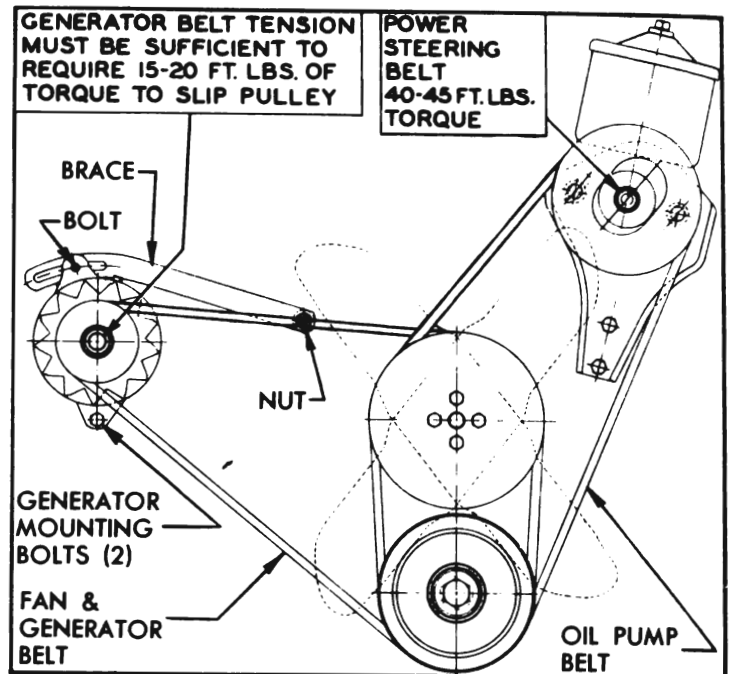

Figure 10-10—Generator Belt Adjustment
5. Check fan belt for condition and proper tension (fig. 10-10), and make certain that all generator mounting bracket and brace bolts are tight. A loose fan belt will permit belt slippage, resulting in rapid belt wear and low or erratic generator output. An excessively tight belt will cause rapid belt wear and rapid wear of generator and water pump bearings. NOTE: *If belt requires adjustment, first loosen belt so that generator pulley is free, then check pulley for tightness and check generator bearings for freeness of rotation and excessive side play. Tight or excessively worn bearings should be cleaned or replaced.*
5. *Before the engine is started*, momentarily bridge between the "BAT" and "GEN" terminals of the generator regulator with a jumper wire or screwdriver. This allows a momentary surge of current from battery to generator, which correctly polarizes the generator with respect to the battery. Adjust fan belt as shown in figure 10-10.